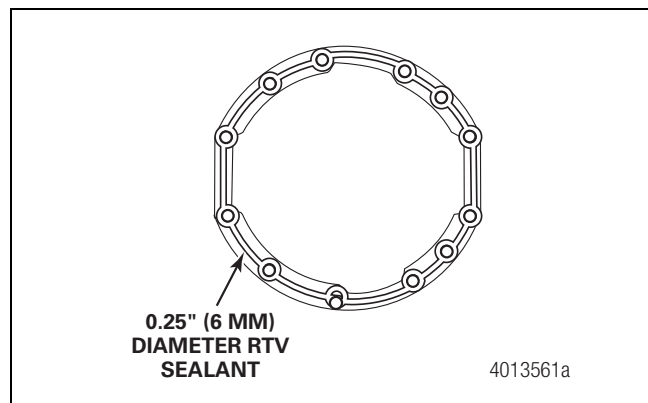

Figure 4.8
13. Apply a 0.25-inch (6 mm) bead of Loctite® 5699 RTV sealant to the housing face. **ONLY** Loctite® 5699, which is included in the fastener kit, can be used. You must circle each bolt hole for correct sealing. Figure 4.8.